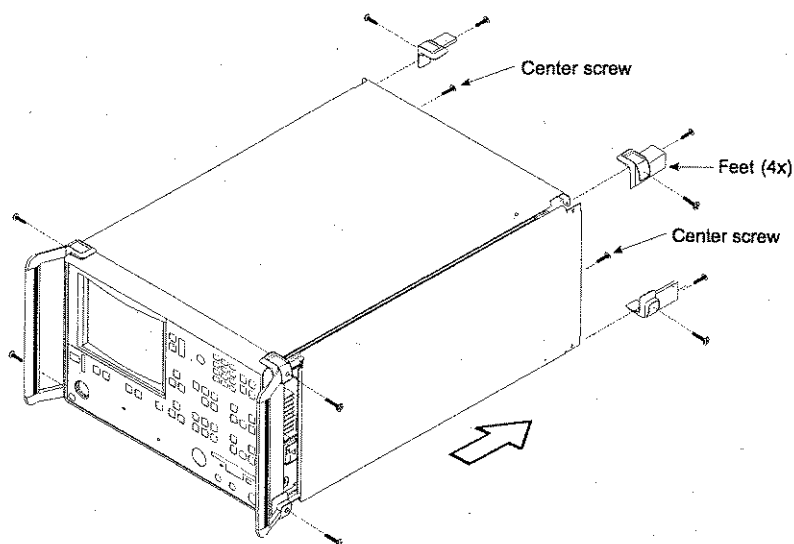

Figure 2-1 Handles and Bumpers
- Step 3. Using a Phillips screwdriver, remove the two handles or four bumper assemblies (and tilt bail, if installed) from the front of the unit, and the four feet at the rear (Figure 2-1). Save the screws for later use.